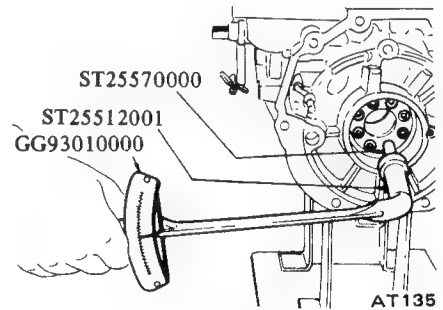

Fig. AT-69 Installing one-way clutch inner race
1. After installing piston of low and reverse brake, assemble thrust spring ring, return spring, thrust washer and one-way clutch inner race. Torque hex-head slotted bolt to 1.3 to 1.8 kg-m (9.4 to 13 ft-lb), using Hex-head Extension ST25570000, Torque Wrench GG93010000 and Socket Extension ST25512001. See Figure AT-69.